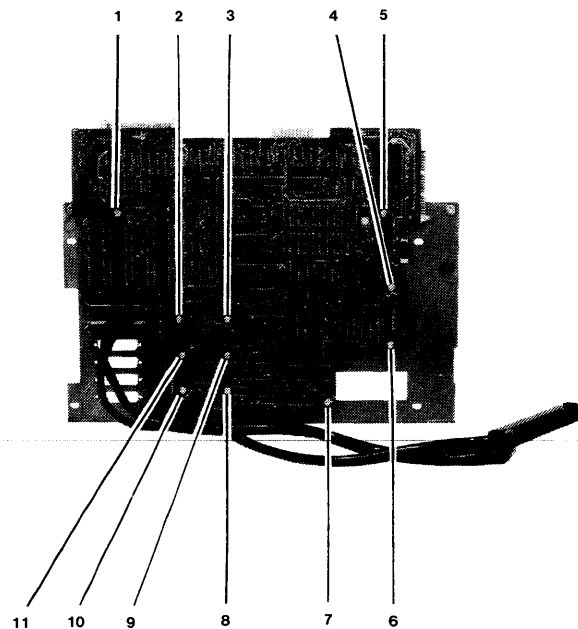

Figure 2. Rear Panel/IOC Board Attaching Screws
7. Place the rear panel assembly face down on a padded flat surface. Refer to figure 2 and remove the 11 screws that attach the IOC board to the rear panel. Lift the IOC board free of the rear panel.